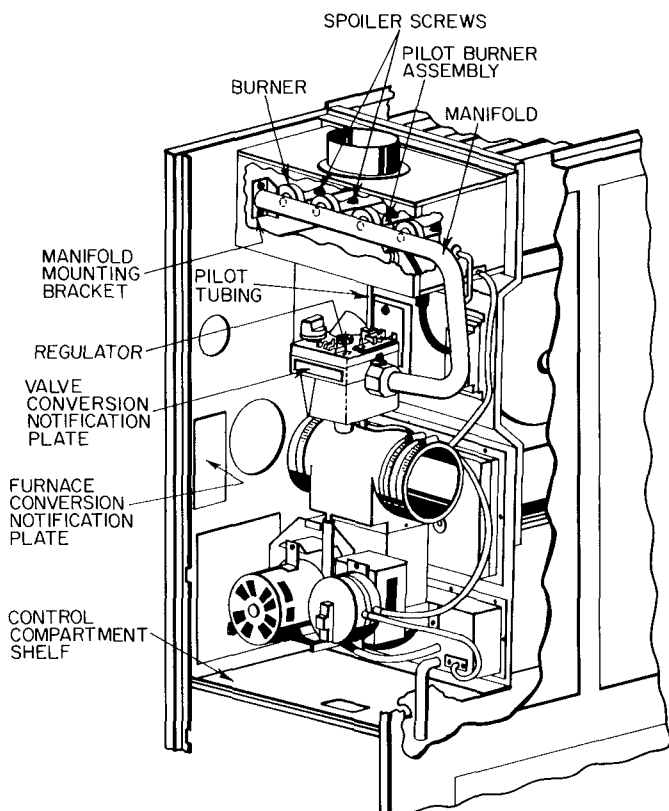

Figure 1 — Furnace Components
5. Attach valve conversion plate to side of gas valve. See Figure 1.
9. Attach furnace conversion notification plate to LH side of furnace casing alongside of furnace rating plate. See Figure 1.